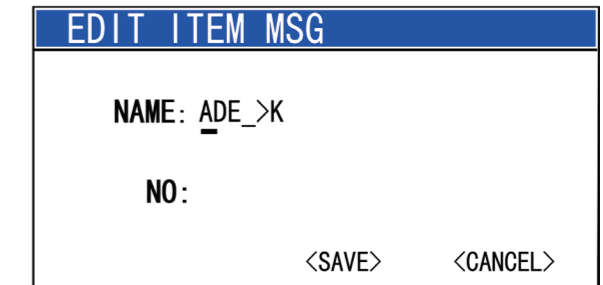

Figure 6.2.2
- c: Turn the channel knob to select <EDIT SELECTED ITEM MSG> and press [CH/ENT] to open the "Edit Item MSG" dialog, as shown in Figure 6.2.2. Use the numeric keypad to enter the entry name and number. You can use [CLARITY] and [CH/ENT] knobs to move the cursor below the characters.